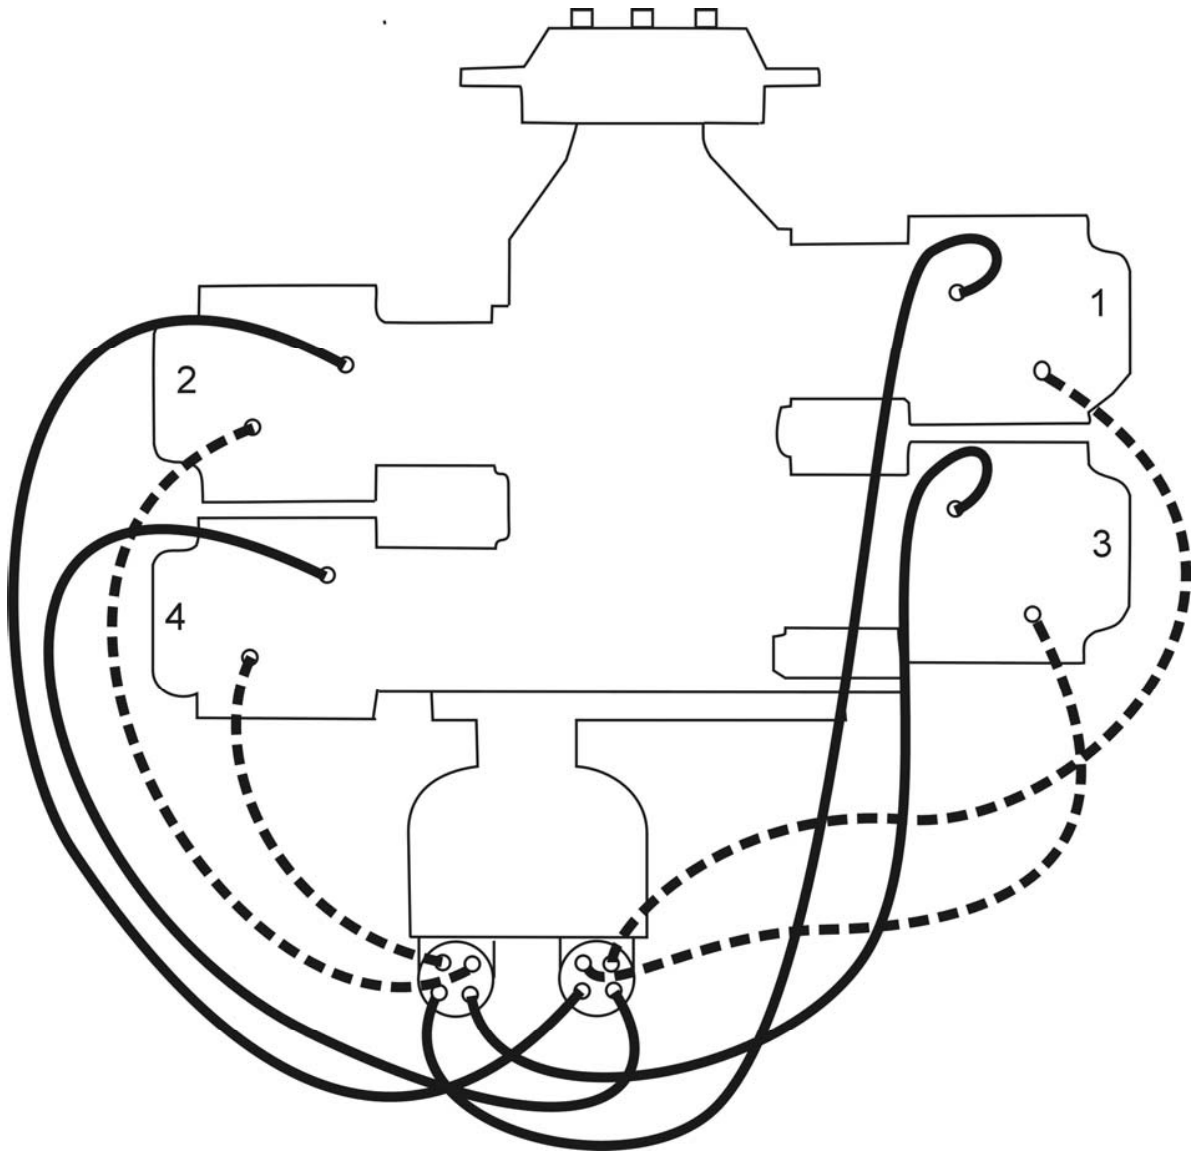

Figure 5-1. Ignition Wiring Diagram – Dual Magneto
- (7) Hold the magneto in its No. 1 firing position (tooth in window center and pointer over R or L mark on rotor) and install magneto to the engine and loosely clamp in position.
- (8) Attach red lead from the timing light to left switch adapter lead, green lead of timing light to right switch adapter lead and the black lead of the light to magneto housing.
- (9) Turn the entire magneto in direction of rotor rotation until the red timing light comes on.
- (10) Rotate the magneto in the opposite direction until the red light just goes off indicating left main breaker has opened. Then evenly tighten the magneto mounting clamps.
- (11) Back the engine up approximately 10° and then carefully “bump” the crankshaft in direction of rotation, at the same time observing the timing lights.
- (12) At the No. 1 firing position of the engine, the red light should go off indicating left main breaker opening. The right main breaker monitored by the green light, must open within  $\pm 2$  engine degrees of the No. 1 firing position.
- (13) Repeat steps (9) thru (11) until the condition described in paragraph (12) is obtained.
- (14) Complete tightening of the magneto securing clamps by torqueing to 150 in.-lbs.
- (15) Recheck timing once more and if satisfactory disconnect timing light. Remove adapter leads.
- (16) Reinstall plugs in timing inspection holes and torque 12-15 in.-lbs.
- (17) Install the harness leads as shown in Figure 5-1 to spark plug and connect switch lead to proper terminal.